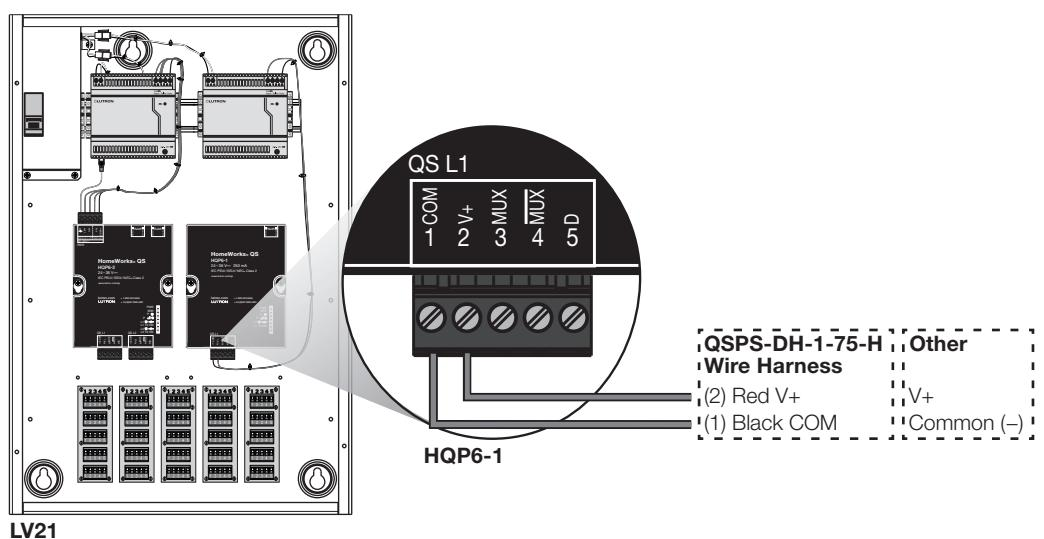

Figure 3—LED functions
4. Verify operation: Confirm that the unit is powered by referring to the PWR LED on the front of the unit. Further diagnostic information can be obtained from the additional diagnostic LEDs on the unit. Please refer to **Figure 3** for explanation of the diagnostic LEDs.